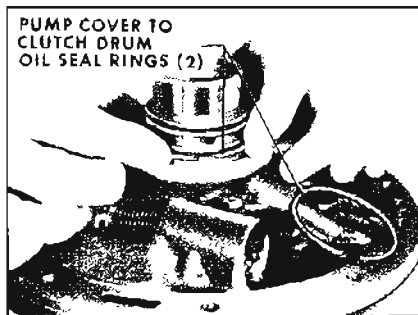

Figure 5-182
1. Remove the two (2) hook type oil sealing rings from pump hub. See Figure 5-182.